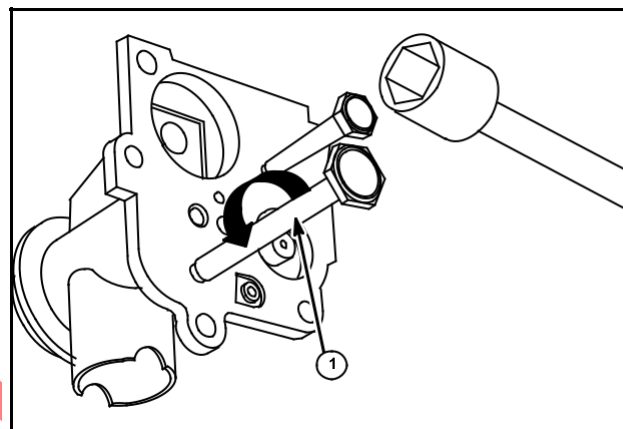

Fig. 23
Short nylon fuel pipes (1) are threaded into carburetor body. To remove, use six-point socket, (3/8" or 9mm), as shown in Fig. 23.
1. Short nylon pick-up tube is threaded into carburetor body. To remove, use socket as shown in Fig. 23.